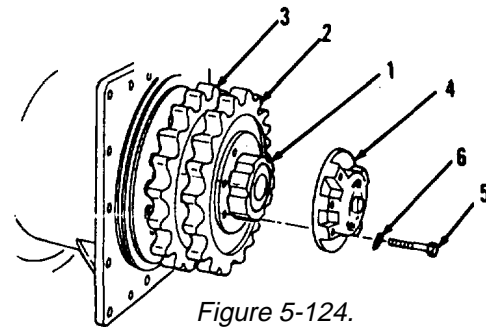

Figure 5-124.
3. Using spanner socket, install nut (1) and tighten to 100 ft-lb torque.
5. Using large punch and hammer, hit hub of sprockets (3 and 2). Repeat steps 2, 3 and 4 until nut (1) does not turn when tightened.
6. Loosen nut (1).
7. Tighten nut (1) to 50 ft-lb torque.
8. Position retainer (4) over nut (1, Figure 5-124).
9. Check alinement of mount bolt holes. Retainer (4) bolt holes must line up with sprockets (3 and 2) bolt holes.
10. Tighten nut (1), if necessary, until mounting bolts can be installed.
11. Install five locks (6) and bolts (5).